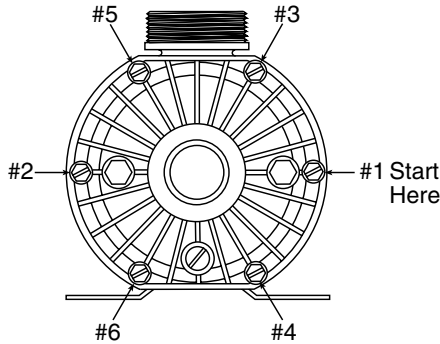

Figure 7 – Torque Sequence
6. Remount front plate; using pattern, shown in Figure 7, torque bolts to 30 inch-lbs. (34.5 cm-kg). BE SURE to start with bolt in 3 o'clock position as shown.